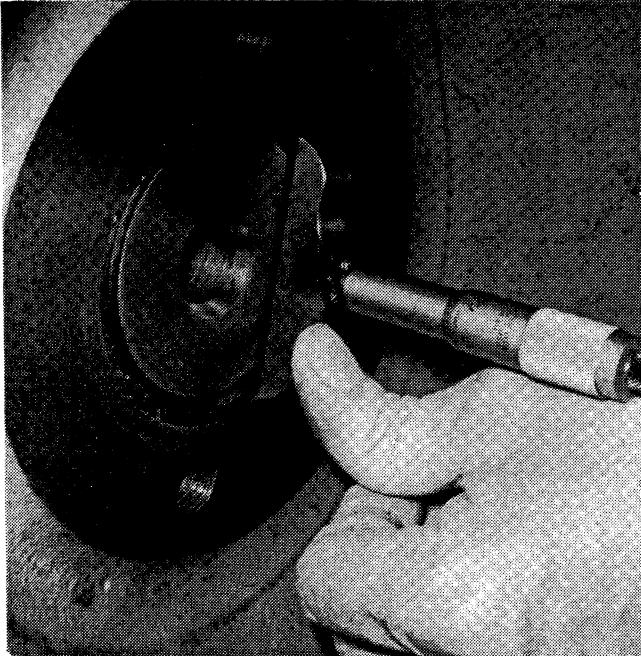

Figure 9-11. Measuring Gap Between Drive Spider and End of Input Shaft.
14. Measure the gap between the front face of the drive spider and the front end of the input shaft. See Figure 9-11.